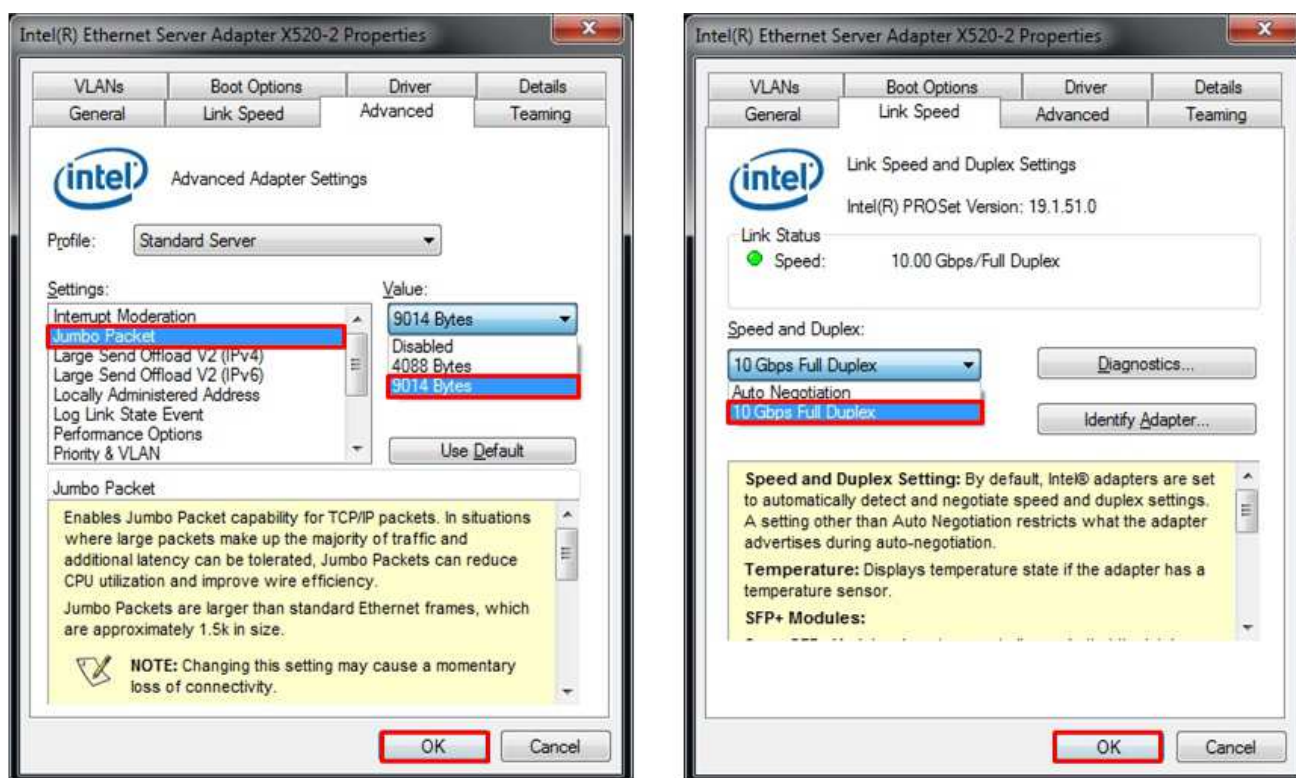

Figure 3-3 Link speed and Jumbo frame setup
- On Advanced Tab, select “Jumbo Packet” and then set Value to “9014 Bytes” for Jumbo Frame support or set value to “Disabled” for non-Jumbo Frame support, as shown in left window of Figure 3-3.
- On Link Speed, select “10 Gbps Full Duplex” for running 10-Gigabit transfer test, as shown in right window of Figure 3-3.